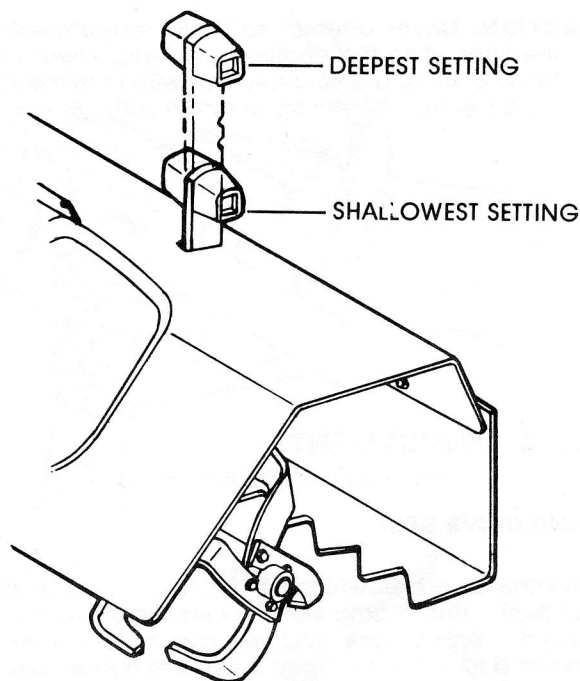

FIG. 3
When starting a tilling operation, start with the depth control lever in the shallowest setting (Figure 3). As you become acquainted with the soil, keep raising the control lever so that deeper tilling can be done.
To check the oil level of the wheel drive case, place the depth control lever down to the shallowest setting (Figure 3). Remove the inspection plug on the right side of the wheel drive case (Figure 10). Case has sufficient oil if oil is up to bottom of inspection plug hole. It may be more convenient to remove the right wheel when checking this level.
1. Set depth control at the deepest setting (Figure 3).